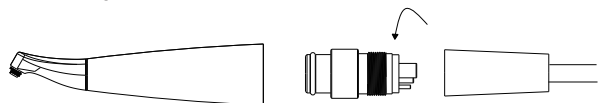

Figure 11 Handpiece cleaning
- Remove the handpiece, connect the handpiece to the cleaning spray nozzle, the connector the nozzle to the hose of dental unit. Keep the air running for at least 10 seconds to thoroughly clean the handpiece tubes. (See figure 11)